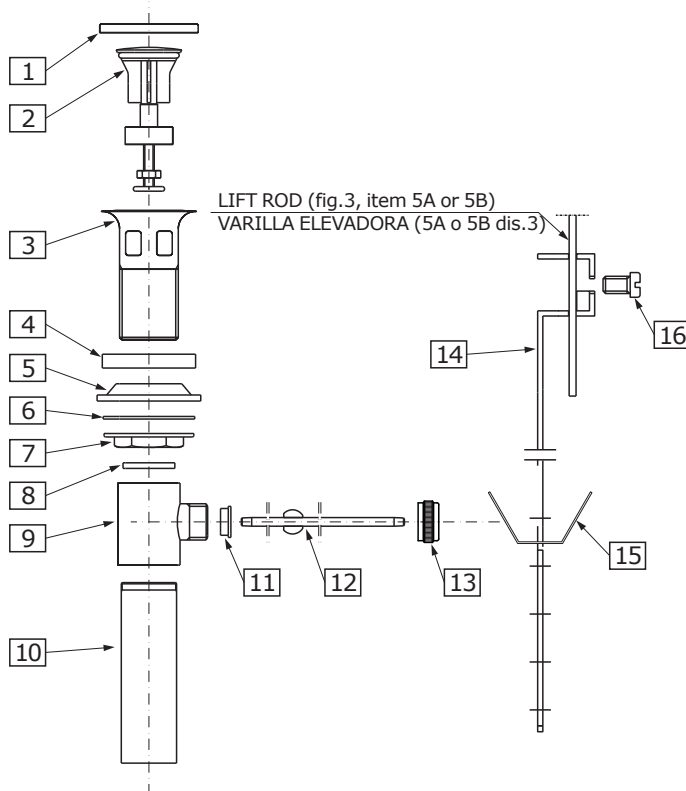

FIG. 5
See fig. 5
- ➔ Dismantle the drain assembly to the parts shown on **fig. 5**.